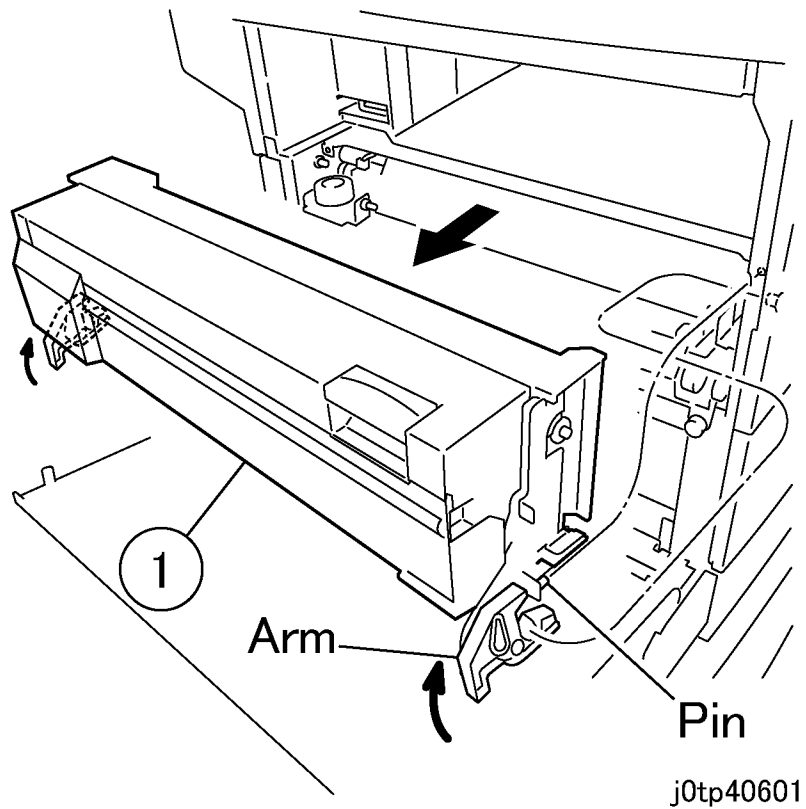

Figure 1 Removing the Exit2+OCT2 (j0tp40601)
2. Remove the Exit2 + OCT2. (Figure 1)